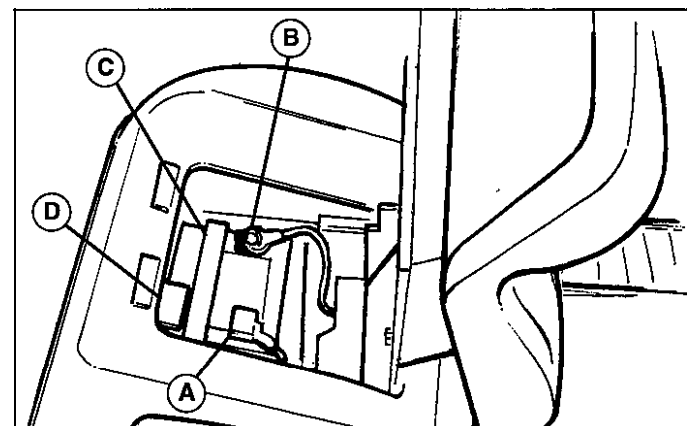

Figure 21. Battery
2. Remove the battery filler cap (C, Figure 21). Fluid must be even with the split ring full mark. If not, add distilled water.
1. Disconnect the cables from the battery, negative cable first (B, Figure 21).